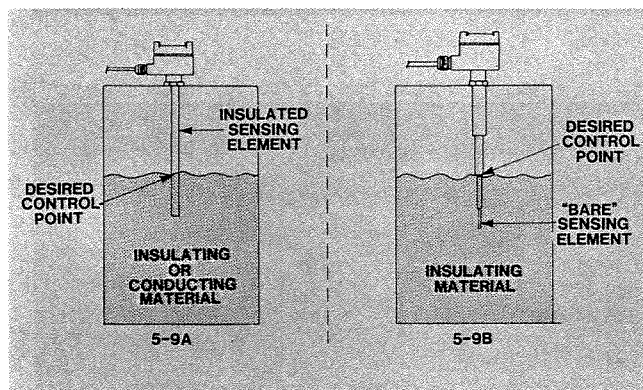

FIGURE 5-9
- A.** Set the level to a point on the sensing element where control is desired. See Figure 5-9.
- B.** With the insulated tool supplied, start from the full counterclockwise (CCW) position and counting the number of turns, turn the setpoint adjustment clockwise (CW) until the relay just operates. Record the number of turns from full CCW position for recalibration.